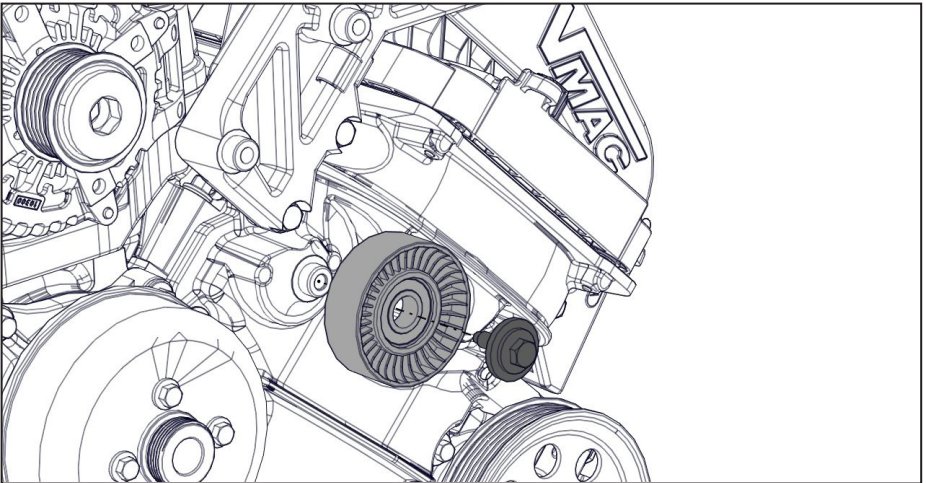

Figure 18 — Install OEM idler
- Install the driver side OEM idler (Figure 18).